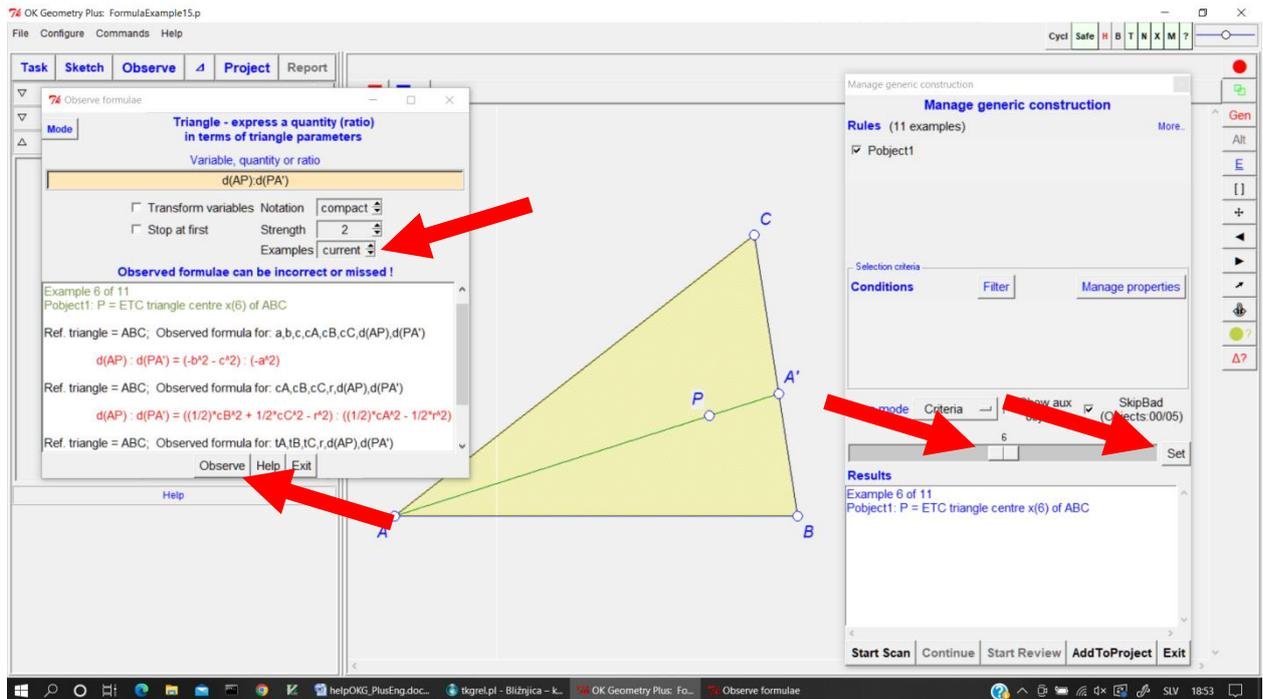

Figure 70
The form for **Observe formulae** will appear (Figure 70).
1. Set the slide bar in the examples manager to the desired value (Figure 70). For example, if you want to consider the example 6 (i.e. P is the symmedian point of ABC), set the slide bar to 6.